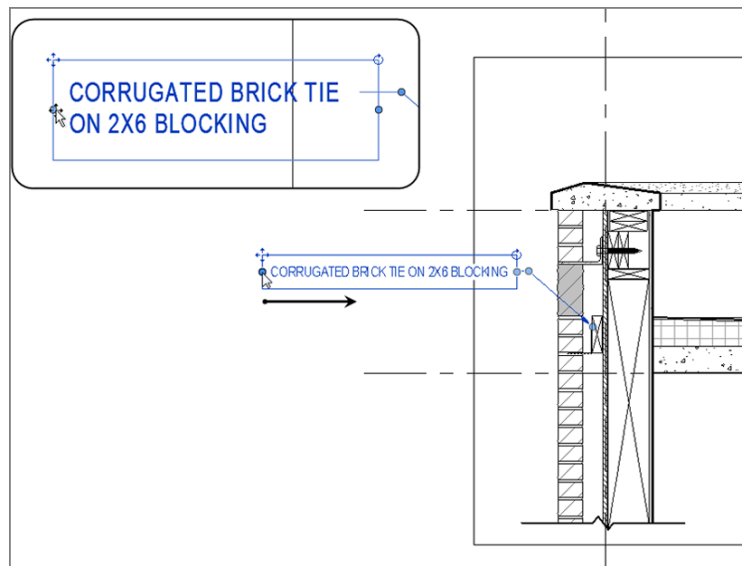

FIGURE 12.49: Wrapping the text
12. Pick the grip to the left, and drag the box to resemble Figure 12.49. The text wraps.